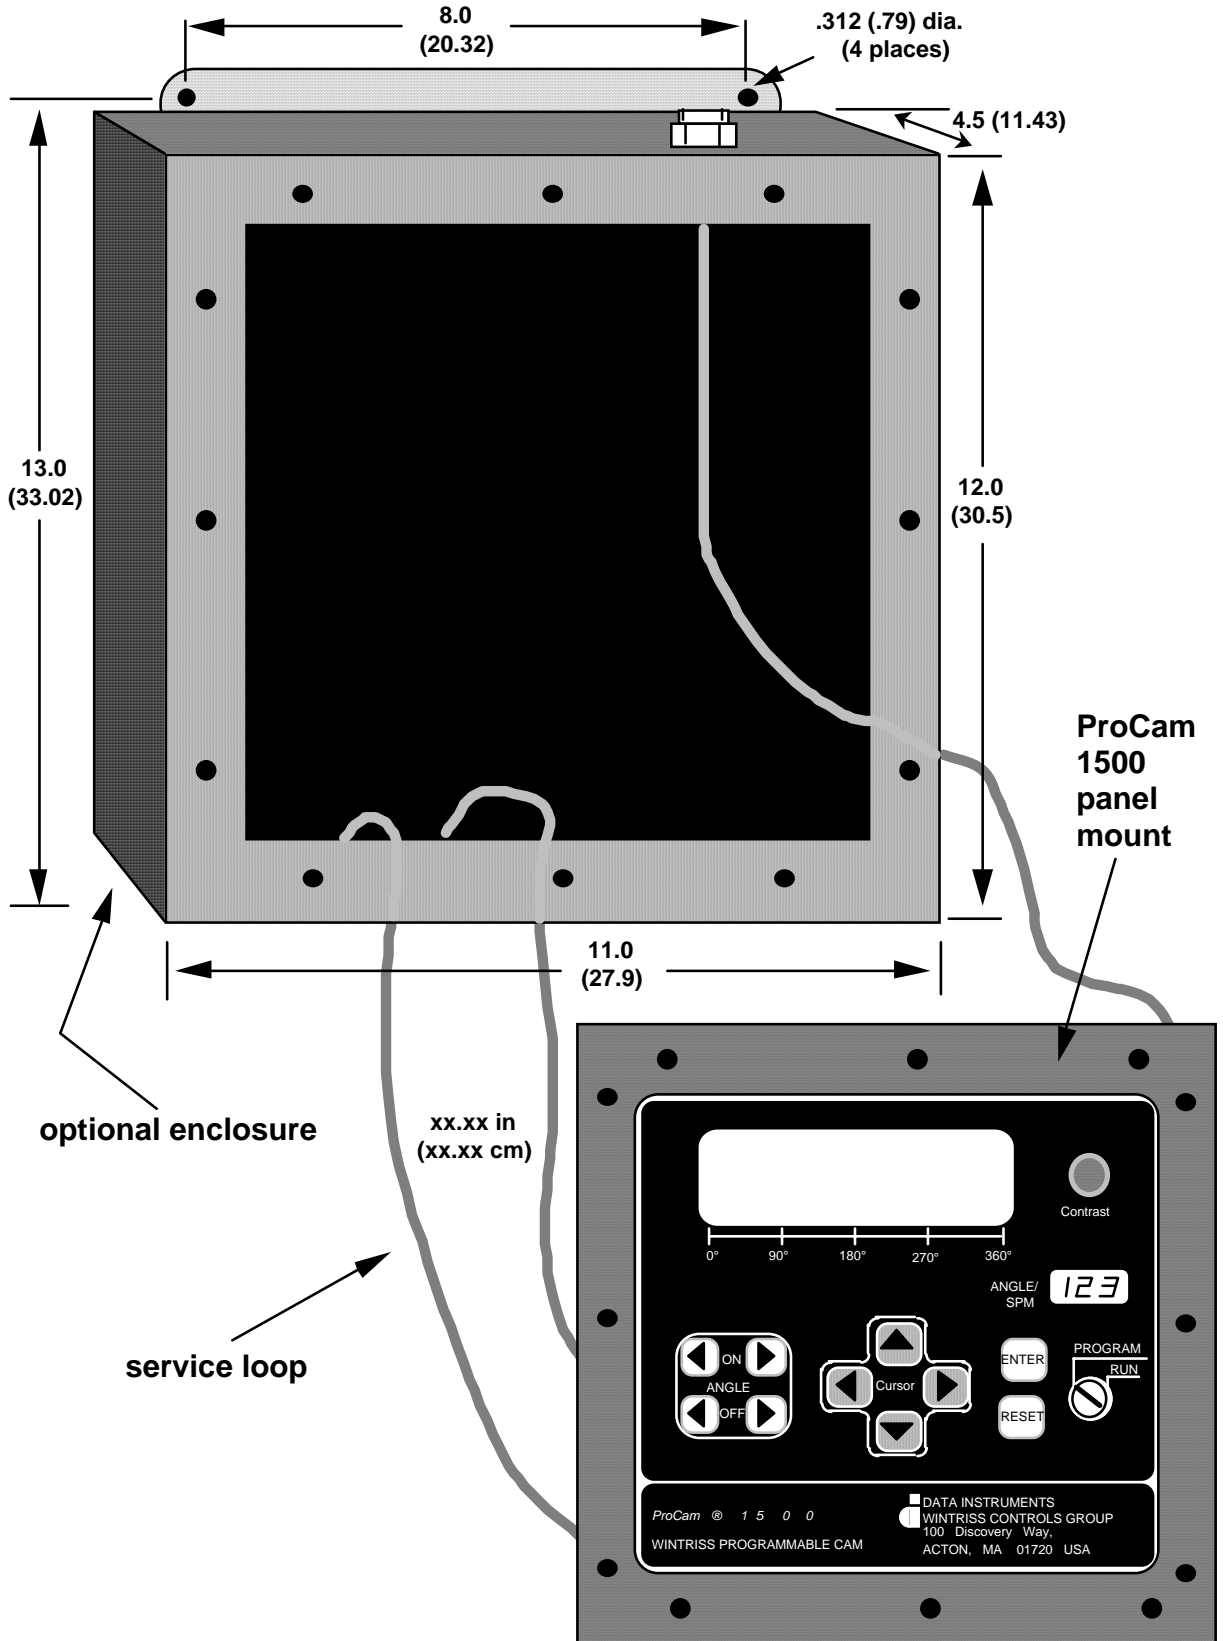

Figure 2-3B. ProCam 1500 with optional enclosure
3. Prop ProCam near the location where it will ultimately be mounted (see Figure 2-3B). Allow up to 9" of service loop when performing the wiring connections. Also make sure all cables will reach.